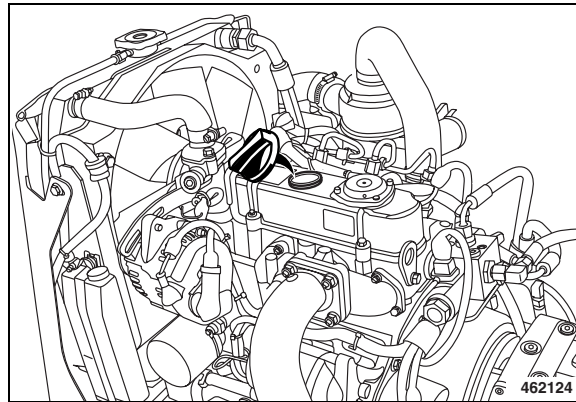

Fig. 130
- Unscrew the oil filler plug (Fig. 130).